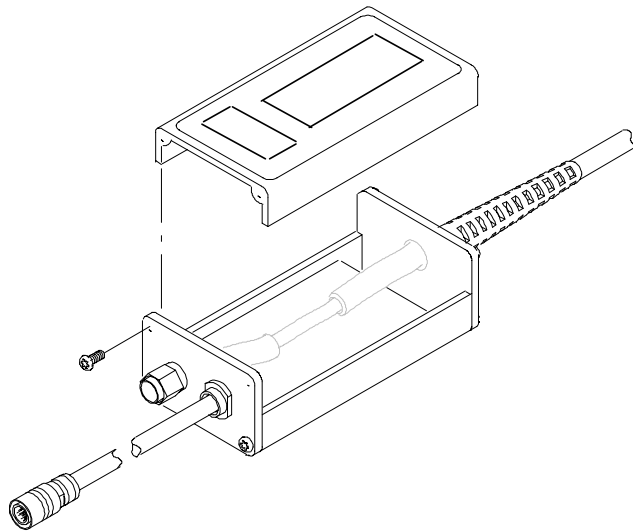

Figure 16: Removing the compensation box bottom cover
1. Using a Pozidrive screwdriver, remove the four screws that attach the bottom cover to the compensation box. Gently remove the cover. Refer to Figure 16.